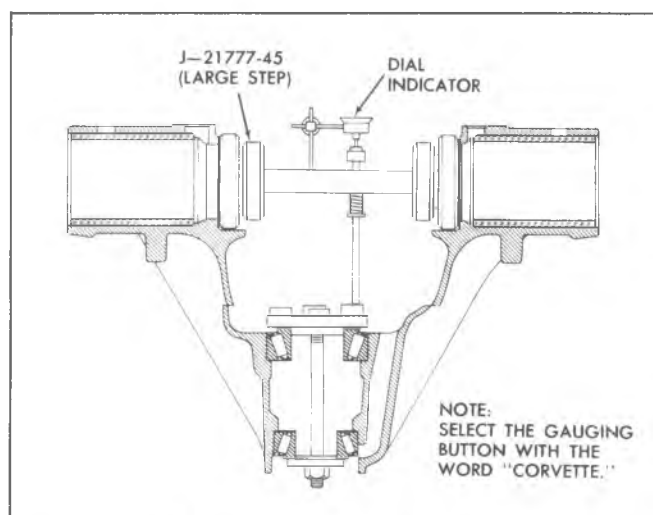

Fig. 23C--Pinion Depth Gaging Tools Installed
11. Rock the plunger rod slowly back and forth across the button until the dial indicator reads the greatest deflection. At this point, set the dial indicator to zero. Tools will now be positioned as shown in figure 23C.